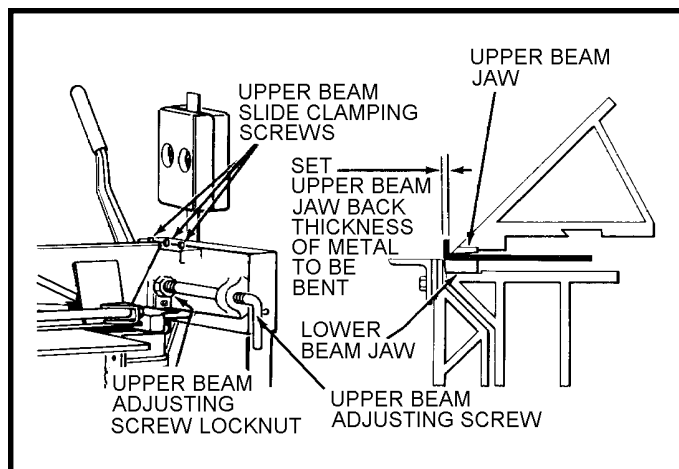
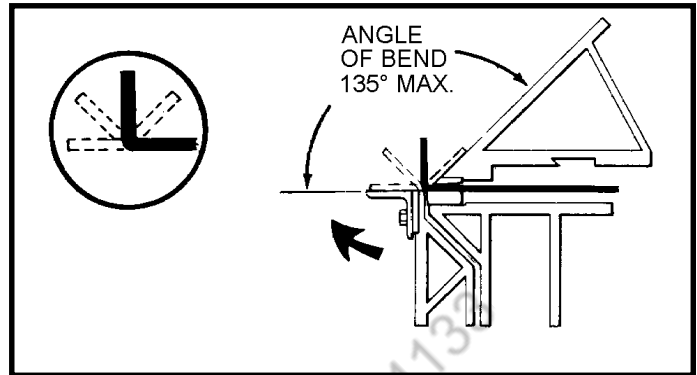
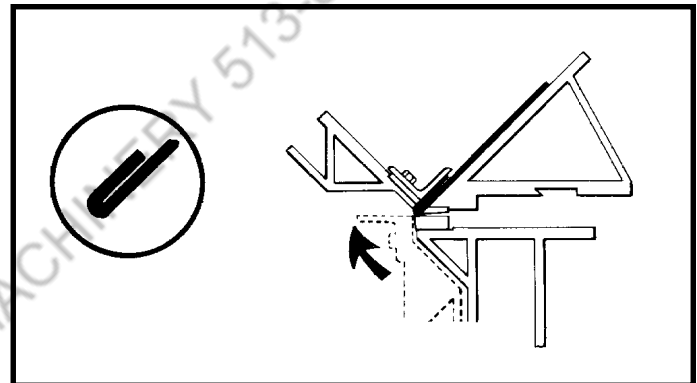
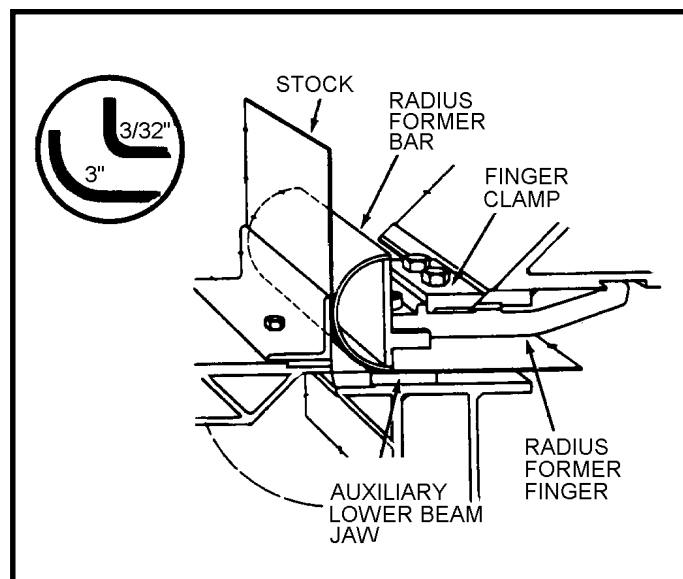

Figure 5. Adjustment of Brake Jaws for Material Thickness
Figure 8. Straight Bending
Figure 9. Flattened Seam Bending
Figure 15. Radius Bending
3. Loosen the Upper Beam Slide Clamping Screws (figure 5) and Upper Beam Adjusting Screw Lock Nuts at both ends of brake. Set entire front edge of Upper Beam Jaw back from the Lower Beam Jaw the thickness of the metal to be bent by turning the Upper Beam Adjusting Screws back as necessary. Retighten all screws and nuts.
Set Upper Beam Jaw back to thickness of metal to be bent. (See figure 5). Bends up to 135° may be achieved by raising the Apron until the desired angle of bend is obtained. (See figure 8).
Bend metal to full 135° angle as explained above (figure 8). Remove metal from between the jaws and reposition it against the Upper Beam as shown in figure 9. Lift Apron to flatten seam.
3. When using a 1 $\frac{1}{2}$ " or larger Radius Forming Bar, an Auxiliary Lower Beam Jaw is required and should be inserted in position behind the lower Beam Jaw (figure 15).
4. Loosen the Upper Beam Slide Clamping Screws (figure 5) and Upper Beam Adjusting Screw Lock Nuts at both ends of brake. Move the entire Upper Beam back far enough to accommodate the assembled Radius Former Finger and Bar (figure 15).
6. Move Upper Beam back or forward as necessary until front edge of Radius Former Bar is back from the Lower Beam Jaw the thickness of the metal to be bent. (see figure 15). Tighten all Upper Beam Slide Clamping Screws and Adjusting Screw Lock Nuts.